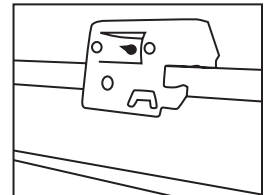
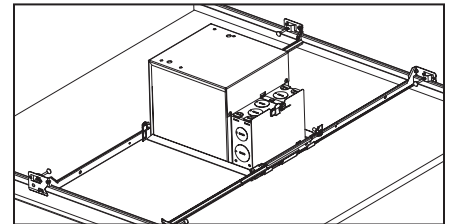

Figure 7
Figure 6
Step 3. Place fixture into position and snap bar hanger foot with integral T-bar notch onto T-bars (Fig. 6). Additional holes are provided for securing with wire or screws if desired (Fig. 7).